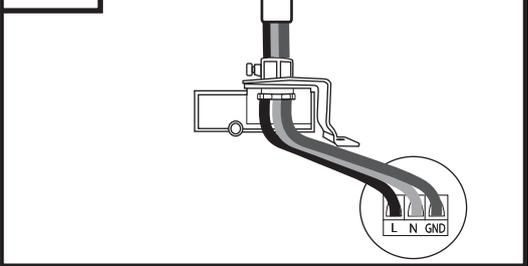

Fig. 59
- Remove screw from transformer module cover plate. Break cover plate as shown in Fig. 59. Remove and save chassis screw.